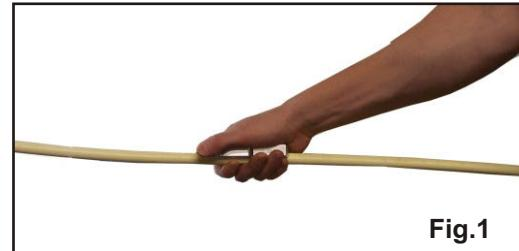

Fig.1
1. Grasp the tool in the area of the window cut, applying forefinger pressure on the cable against the blade. (Fig.1)